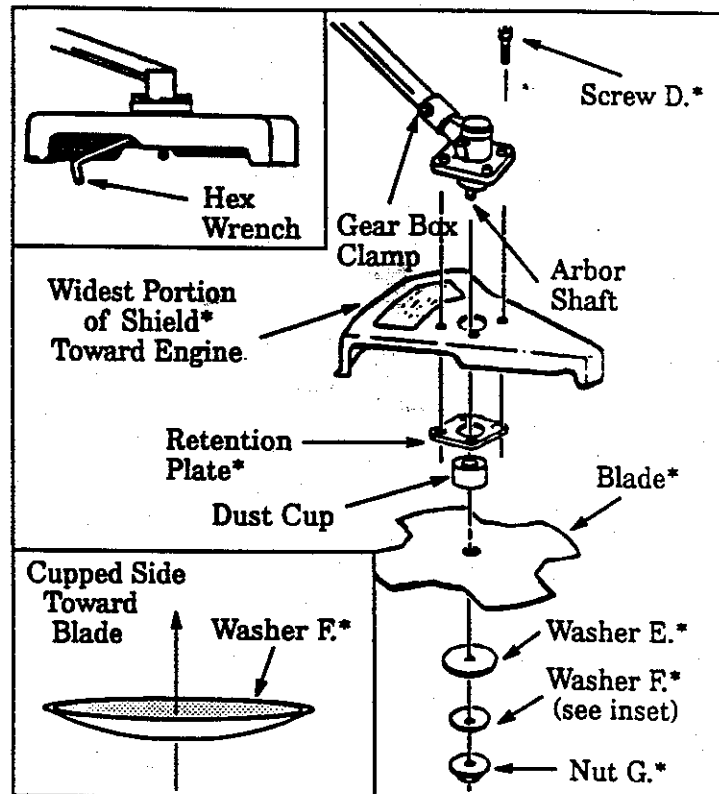

Figure 9
Failure to install the shield in the position shown in Figures 9 and 8 can result in serious injury to the operator. The length of the shield must be aligned with the length of the drive shaft housing. Direct the widest part of the shield toward the engine.
- Hold the Retention Plate in position and place the metal Shield under the Gear Box. Align screw holes. Figure 9.
- Insert the four Metal Shield Screws "D." (one at a time) through the Gear Box, Shield, and Retention Plate. Figure 9.
- Install the Blade over Arbor Shaft, making sure the hole in the center of the Blade is fitted around the raised center step on the Dust Cup. Figure 9.
- Install the large Flat Washer "E.", Beveled Washer "F.", and Hex Flange Nut "G." as shown in Figure 9. Be sure Beveled Washer "F" is installed as shown in Figure 9 (inset).
- Align the hole in the Dust Cup with the hole in the side of the Gear Box by turning the Arbor Shaft. Figure 9.
- Insert the large hex wrench (provided) into the aligned holes to keep the Arbor Shaft from turning. Figure 9 (inset, upper left).